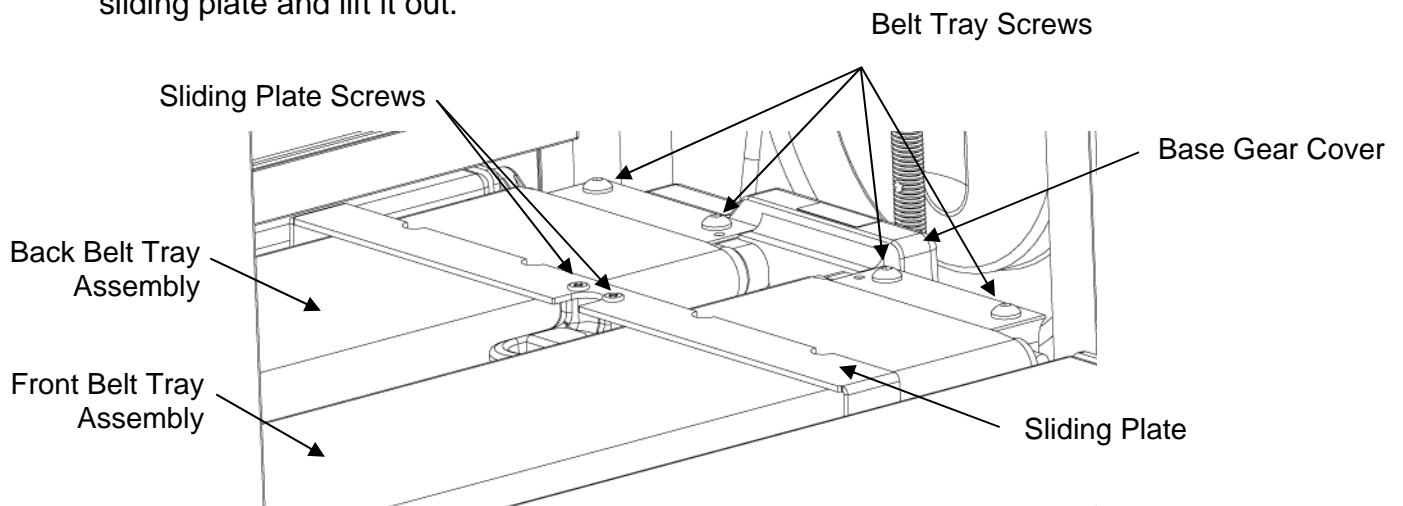

FIGURE 1: VIEW OF THE SLIDING PLATE AND BELT TRAY SCREWS (RIGHT SIDE)
2. **Remove the base gear cover.** Gently squeeze the base gear cover shown in Figure 1 and pull straight up to remove. The base gear cover has been caulked around its edge with silicone to keep dust out. This caulking will pull away from the base when the cover is removed.
3. **Remove the belt tray screws.** Use the 4mm Allen wrench to remove the eight screws holding the front and back belt trays in place (See Figures 1 & 2).